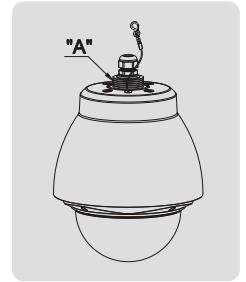

Figure 1
2. Wind Teflon Tape around the thread of "A" (Figure 1.) about 20 times for seal.
5. Connect the power connector of 24VAC of the cables to "AC IN" of fan & heater board (23).
7. Fasten the Dome Camera on the Screw Spacer (18) using 3 screw (BH M4xL8)